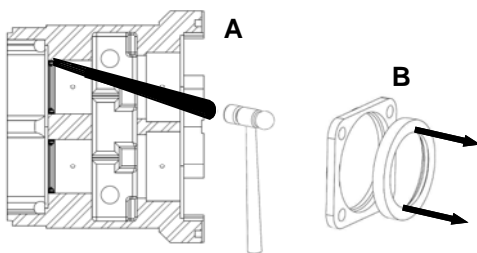

Figure 49: Removing Oil Seals
5) Remove all the shaft shims from the gear case and label which shaft and bore they came from. If the shafts are to be reused, they will need to be reinstalled with the original shims. Failure to do so could result in damage and misalignment in the pump body. Remove and discard the rear oil seals from the back of the gear case. Use a long, non-metallic rod and a soft mallet to punch the seal out from the front side (Figure 49, A). Remove and discard the front bearing seals from the bearing retainers by pressing them out (Figure 49, B). Clean the bearing retainers as they will be reused. Clean excess grease and sludge inside of the gear case before reassembling.